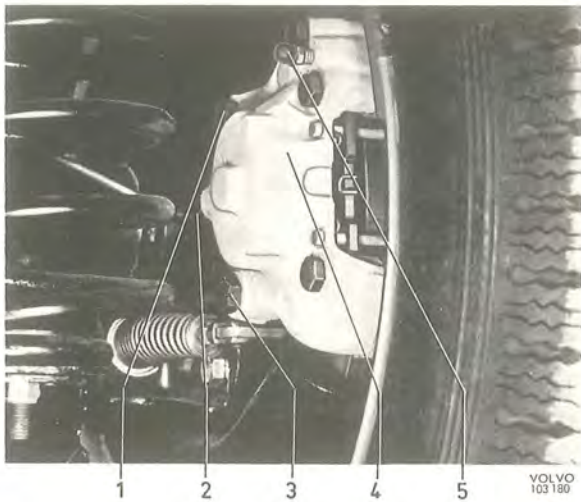
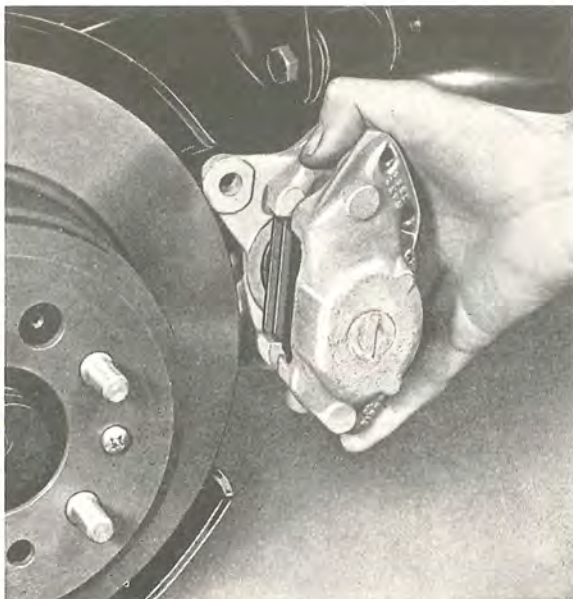

Fig. 5-25. Rear wheel brake unit fitted
Fig. 5-26. Removing the rear wheel brake caliper
3. Disconnect the pipe connection (2, Fig. 5-25) from the caliper and fit a protective cover on the brake line. Remove the attaching screws (1 and 3, Fig. 5-25). Remove the brake caliper, see Fig. 5-26.